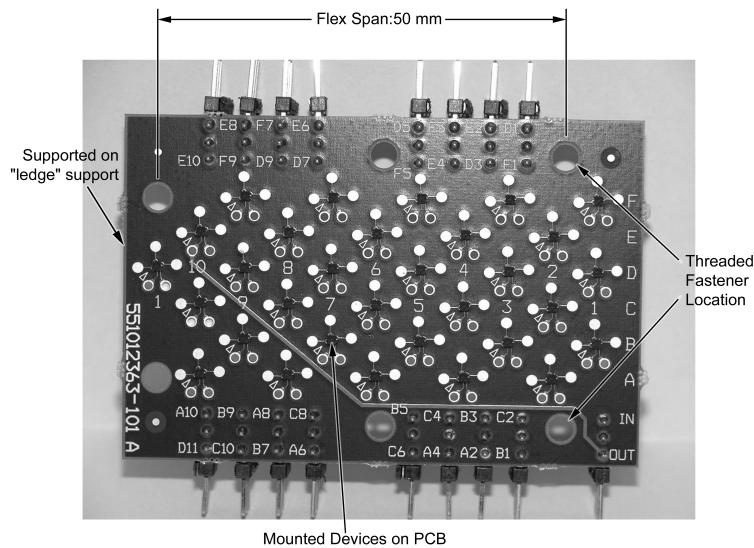
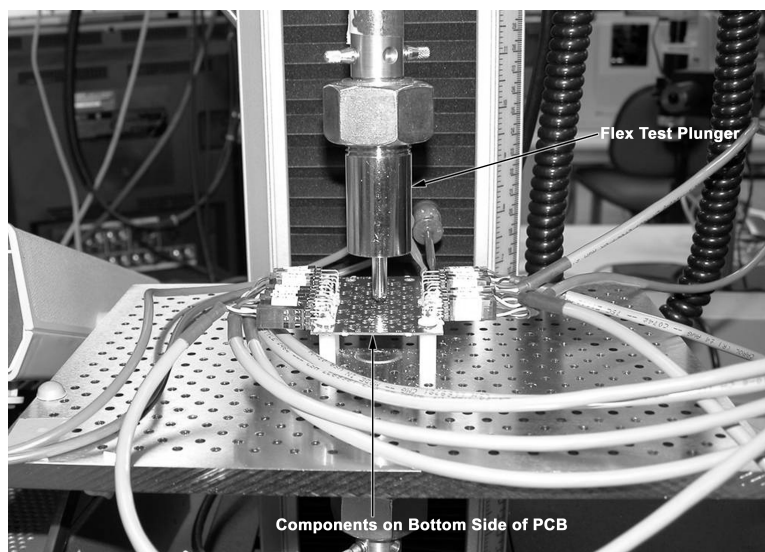

Figure 13. Flex Test PCB Layout
Figure 14. Test Setup for Flexural Testing
6. FLEX TEST: This is a repetitive flexing test where PCB is flexed at a pre-set frequency. Flex test results are shown in Table 10. An increase of 10% in resistance of network (daisy chain) is considered a failure. Figure 13 and Figure 14 show the setup used for the Flex test.